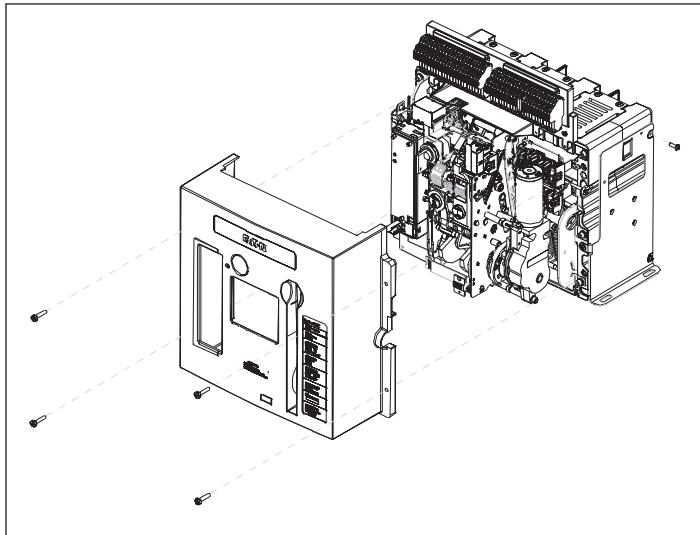
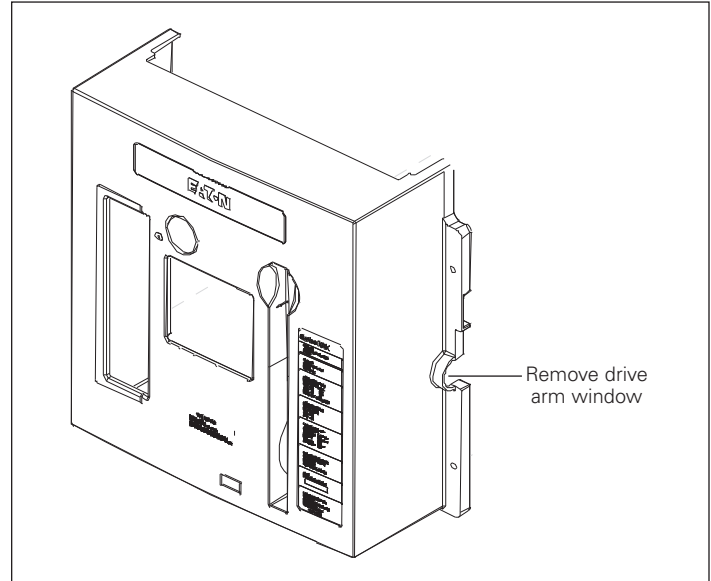
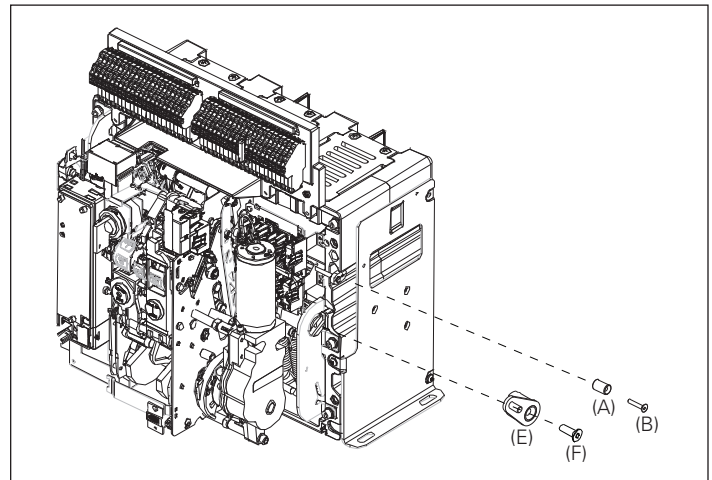

Figure 4. Details for Steps 1 and 2
Figure 5. Details for Steps 1 and 2
Figure 6. Details for Steps 3 and 4
Remove the four screws (six for 4-pole breaker) holding the cover in place. Pull down on the charging handle and remove the front cover as shown in **Figure 4**. Remove drive arm window as shown in **Figure 5**. Either use a utility knife to cut the window from the cover or use a punch and a small hammer to carefully punch out the window. Once the window is removed, use a small file to remove any burrs that remain. Make certain that all pieces and/or particles are cleaned up and removed before proceeding.
Remove and retain the upper right M5 x 12 mm screw from the fixed breaker mounting foot (ref. IL01301076E) as shown in **Figure 4**.
Install the drive arm (E) to the end of the pole shaft using an M6 x 35 mm flathead screw (F) as shown in **Figure 6**. Apply Loctite® Blue 242 to ensure that the screw cannot come loose during operation. The drive arm should be oriented as shown in **Figure 5**. Torque to 7,3–9,6 N·m (65–85 in·lb).
Install the trip pin (A) to the trip bar using an M3 x 16 mm flathead screw (B) as shown in **Figure 6**. Apply Loctite Blue 242 to ensure that the screw cannot come loose during operation. Use a wrench to hold the trip lever during installation. Torque to 0,3–0,6 N·m (3–5 in·lb).